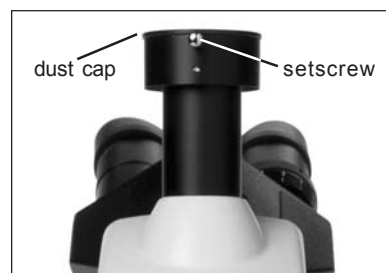

Figure 46
38. In general though, most systems will require the removal of the trinocular port dust cap which is held in place by a set screw located at the rear of the port (figure 46).